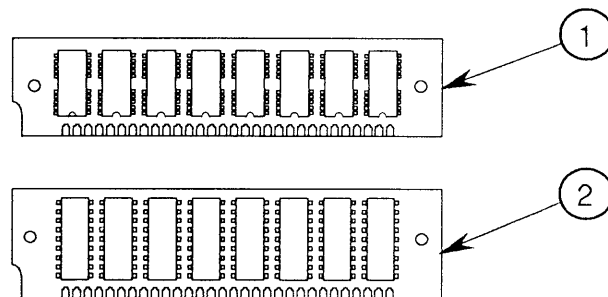

FIGURE 5
- 1 MB SOJ SIMM (Figure 5, #1)
- 1 MB DIP SIMM (Figure 5, #2)